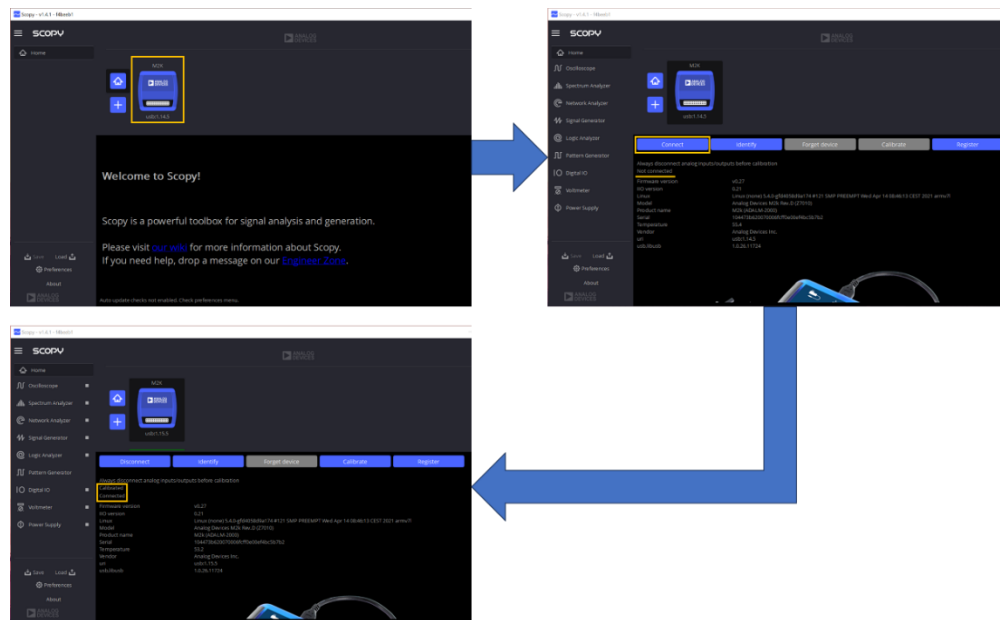

Figure 7. Detecting the ADALM2000 in Scopy
- On the landing page of Scopy, select the detected ADALM2000 device (also known as M2K), then click connect. The program will run a calibration routine and will notify via text in the status console that the device is ready to operate. See Figure 7.